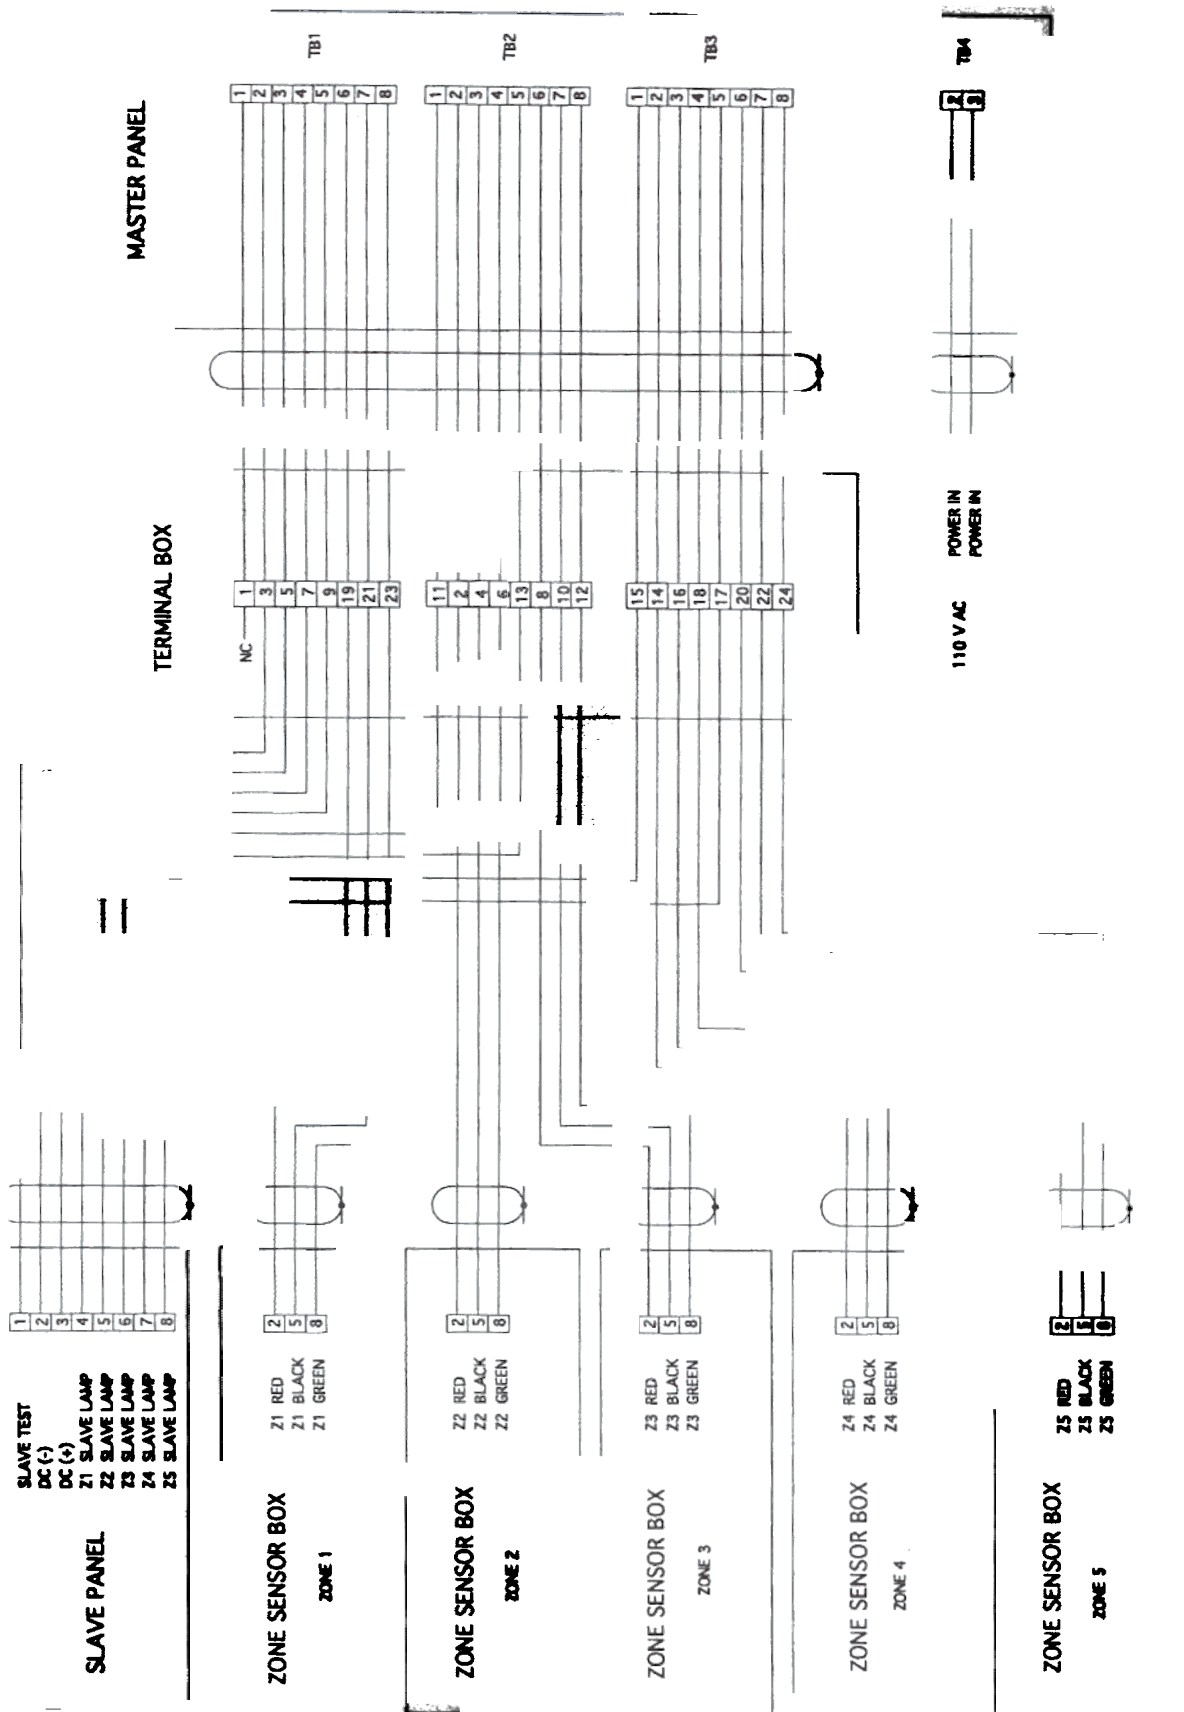

Figure 6-10. Alarm System Schematic
- a. Ship's wiring will vary according to each installation, particularly with the number of zones being monitored. The overall alarm system wiring diagram, figure 6-10, shows signal paths for a five zone system.
- (1) Perform continuity test using an ohmmeter to identify open or shorted wiring.
- (2) With wires removed from terminal boards, resistance readings should be less than 10 ohms for continuity and greater than 100K ohms for short circuit testing.
- (3) All lines should be tested for shorts to the ship's structures as well as wire-to-wire.